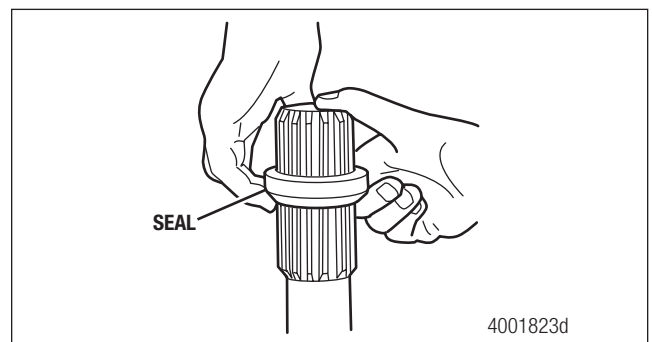

Figure 9.8
3. Remove the seal from the slip shaft. Figure 9.8.